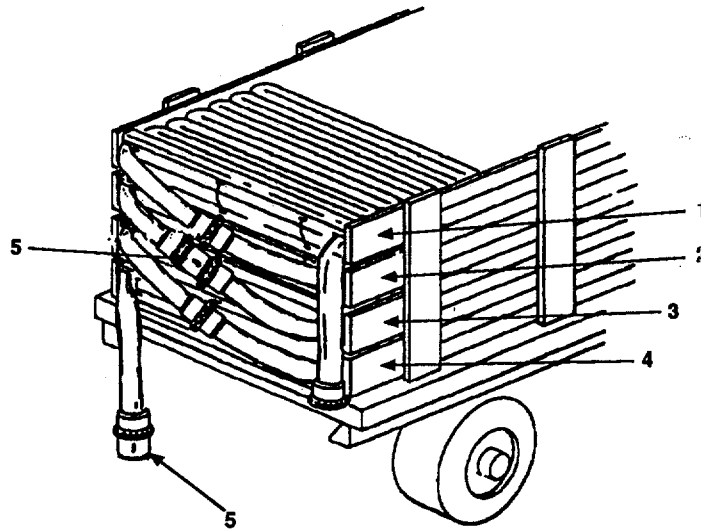
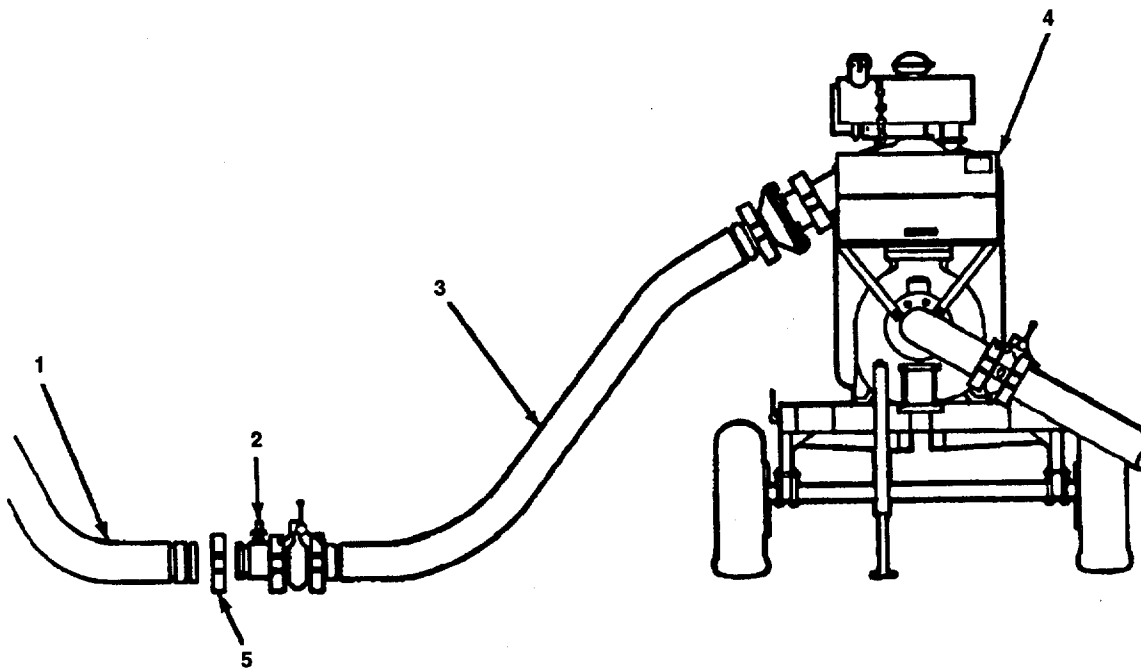

Figure 2-34. Grooved Pipe Coupling and Swivel Joint installation.
Figure 2-35. Connection to Lead Pumping Station.
- a. Remove 6 inch grooved pipe coupling (para 2.3.2.1) from leading ends of hose assemblies in flaking boxes (Figure 2-34, 1, 2, 3, and 4).
- b. Connect leading end of hose in flaking box four (figure 2-34, 4) to trailing end of hose in flaking box three (3) with 6 inch grooved pipe coupling (para 2.3.2.2).
- f. Connect swivel joint (5) to trailing end of hose in flaking box four (4) with 6 inch grooved pipe coupling (para 2.3.2.2).
- g. Connect leading end of hose assembly (Figure 2-35, 1) in flaking box one (Figure 2-34, 1) to pressure relief valve (Figure 2-35, 2) on discharge hose (3) at lead pumping station (4). Attach leading end of hose (1) with grooved- end pipe quick disconnect coupling clamp (5) (para 2.3.3.2).
- c. Install pressure relief valve (4) on inlet connection (6) of pressure-reducing valve assembly (3) using grooved-end pipe quick disconnect coupling (5) (para 2.3.3.2) as shown in figure 2-34.
- d. Connect upline hoseline length (7) to pressure relief valve (4) with 6 inch grooved pipe coupling (1) (para 2.3.2.2).
- e. Connect downline hoseline length (8) to outlet connection (9) on pressure-reducing valve assembly (3) with grooved-end pipe quick disconnect coupling (2).
- f. Place all isolation cock valves (10) to open position.
2.4 INITIAL ADJUSTMENTS, CHECKS, AND SELF TEST. There are no initial adjustments, checks or self tests other than the BEFORE (B) PMCS. Perform all BEFORE (B) PMCS prior to operating the TWDS.